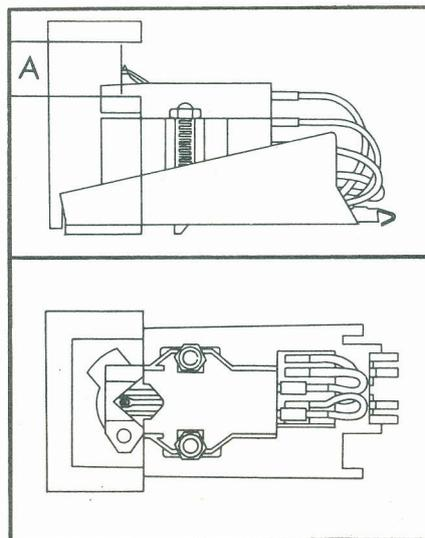

Fig. 15
3. The cartridge is mounted correctly when the stylus protrudes slightly into the notch of the gauge and when the stylus is also positioned vertically within range (A) (Fig. 15).